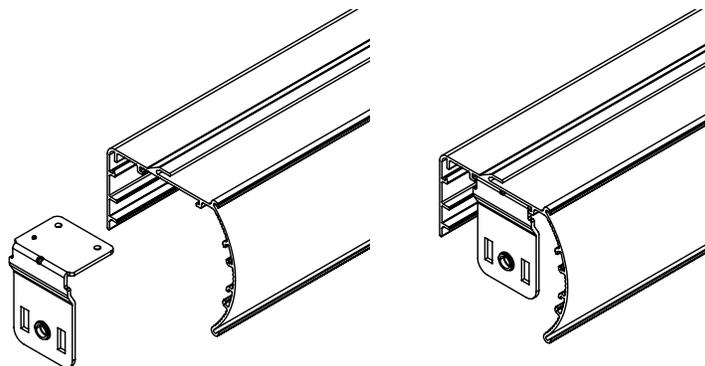

Figure 11. Cassette Brackets
Step 9. Insert a cassette bracket into the cassette as shown in **Figure 11**. Tap into place with a hammer until the bracket is even with the end of the cassette. Repeat for the other end.